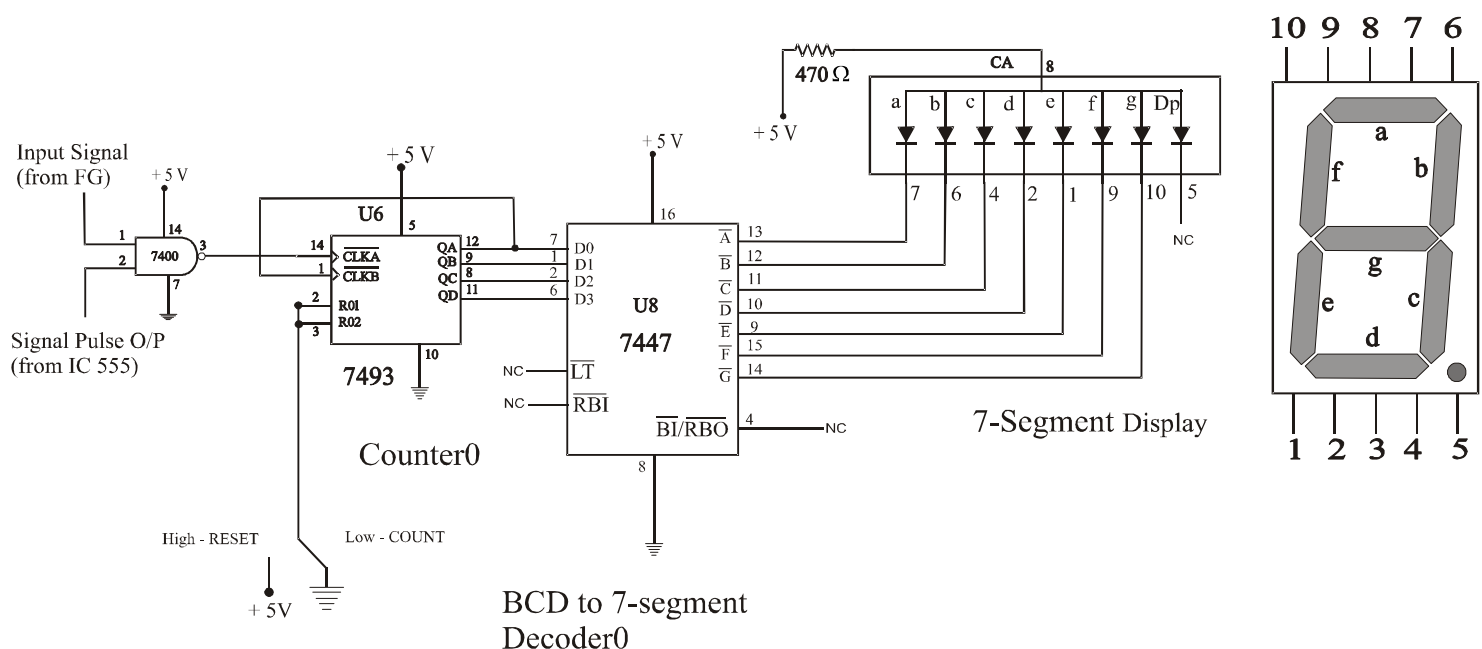

Fig. 10.2: 1-Digit BCD counter with 7-Segment display (from Exp. 9)
7. Apply the input signal from Function Generator (FG) to the other input of the NAND gate. The NAND gate output will act as clock signal for counter 'CLKA' input (pin 14) of the **Exp. No. 9 (1-digit BCD Counter with 7-segment display)**. For your reference the circuit has been redrawn in fig 10.2.